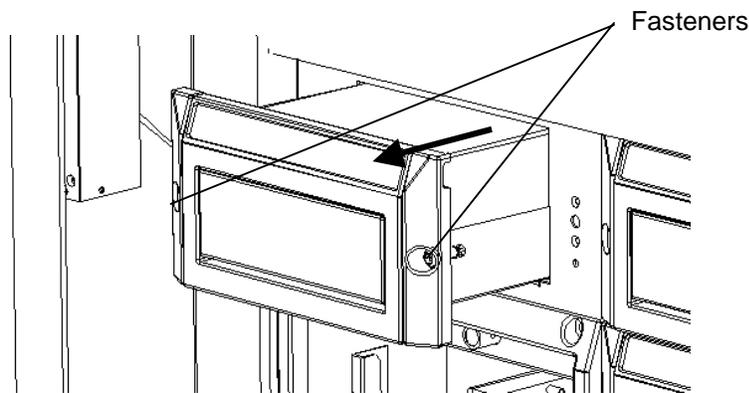

Figure 33. Fasteners on the Incubator Modules or Detection Module
1. Loosen the fasteners (Figure 33) one-fourth ( $\frac{1}{4}$ ) of a turn using a 4 mm Allen wrench.